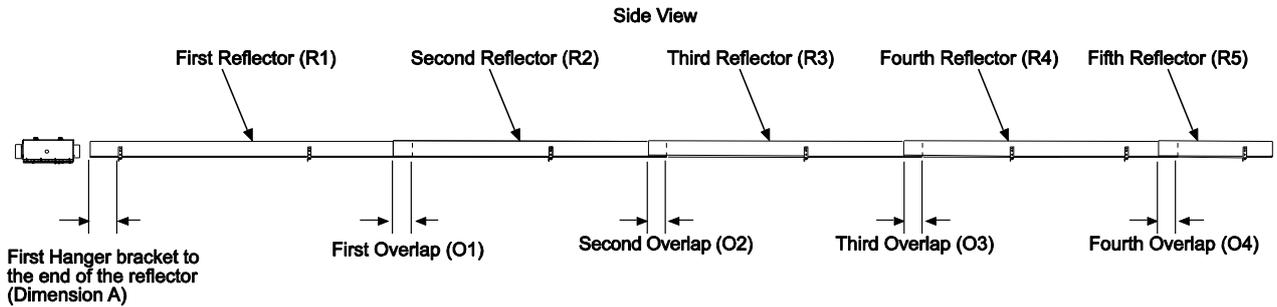

Fig. 22e
7. Position the **lower reflector panels** over the tube support/hanger brackets. Arrange the reflector panels to the dimensions shown in section 8.0. **Note:** The reflectors **MUST** be positioned in accordance with the dimensions stated because the side panels provided with the heater are designed to cover the entire length of the reflectors and therefore if the location of the reflectors does not match these dimensions then the side panels will not fit. See table 16 and figure 22e below: